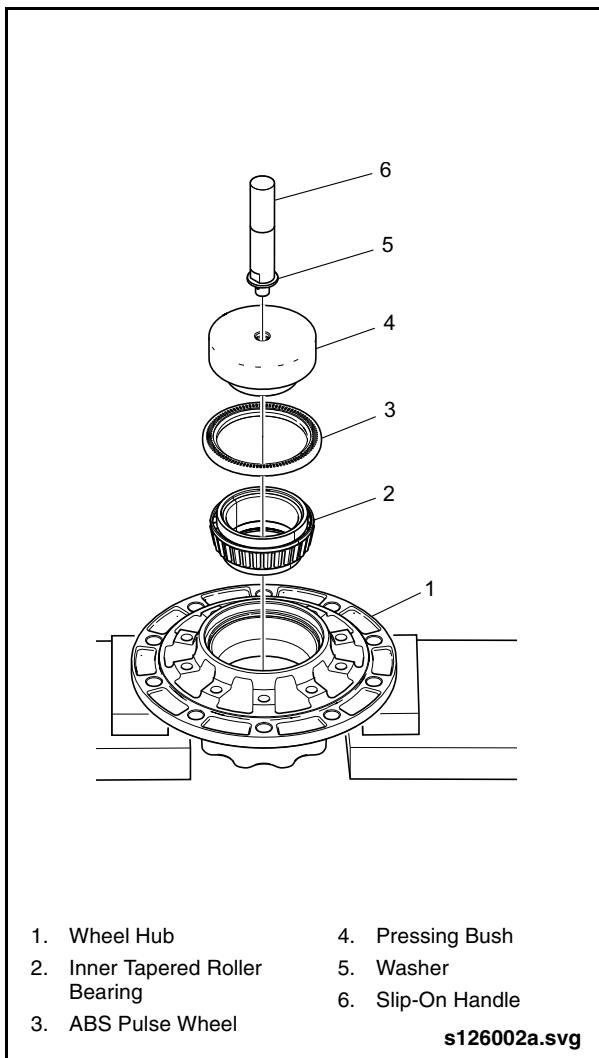

Fig. 2-25: Installing Inner Tapered Roller Bearing
1. Insert the tapered roller bearing into the wheel hub. See “Fig. 2-25: Installing Inner Tapered Roller Bearing” on page 28.